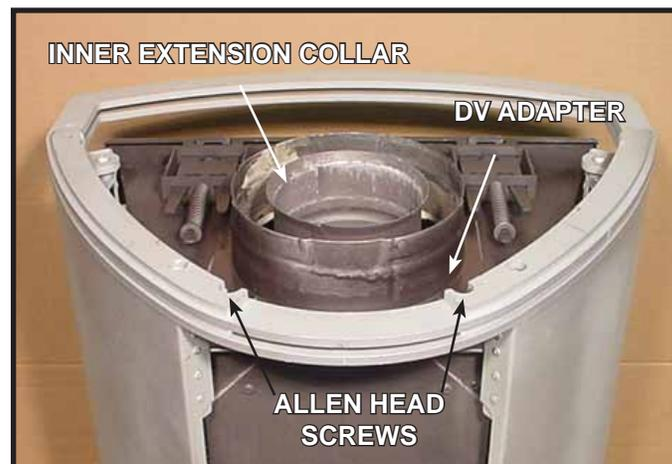

Figure 7.8
3. Remove and retain the Allen head screws that hold the solid back panel in place (Figure 7.8). Remove and discard the solid back panel.
4. Remove the inner extension collar (Shown in **Figure 7.8**) and set aside.
5. Remove the four screws from the DV adapter collar (**Figure 7.8**). Set aside DV adapter collar and screws.